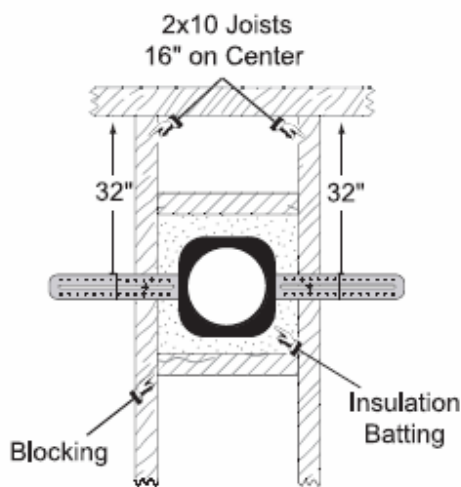

Figure 6
- It is recommended to install blocking and insulation for the best possible sound quality. Refer to the On-Q speaker cubic footage chart included with the speaker instruction sheet. (See Figure 6)